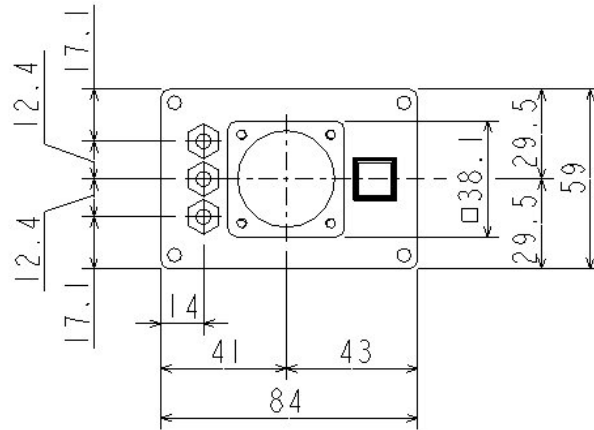

Fig. 4.4 Air pipe used for tools
The Model TH650A robot comes with three (3) air line pipes necessary for tools. The outer diameter of the air pipes is 6 mm. Fig. 4.4 shows the air pipe. The user shall prepare solenoid valves and air control unit.